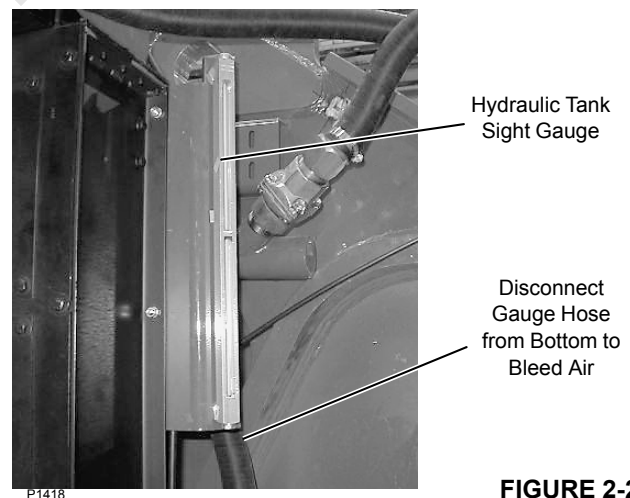

FIGURE 2-22
9. Fill hydraulic tank to FULL HOT level mark on sight gauge (Figure 2-22).